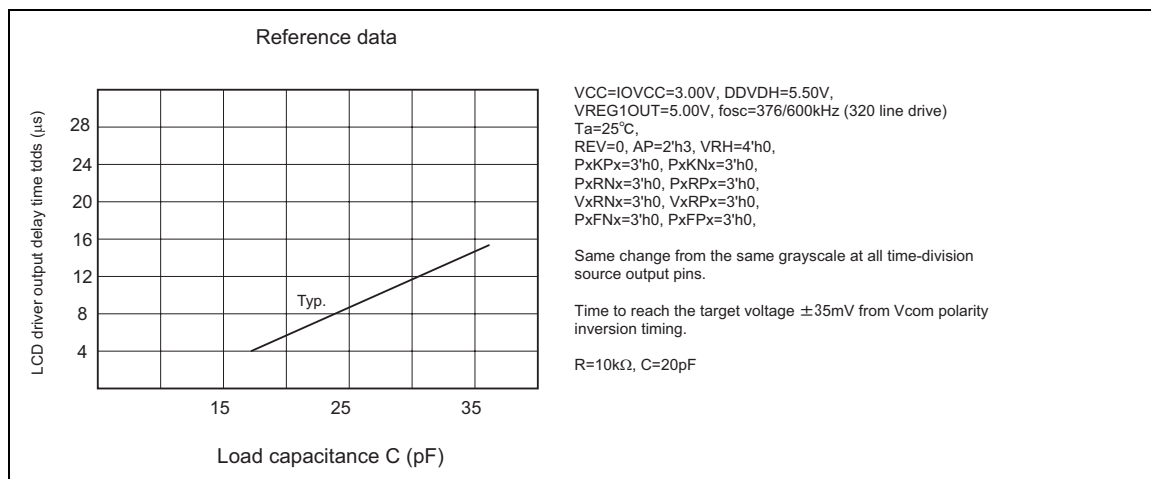

Figure 92
p. 188 Figure 90 Change label on x-axis. p. 190 Figure 92 Error correction (tDD on y-axis → tdds)